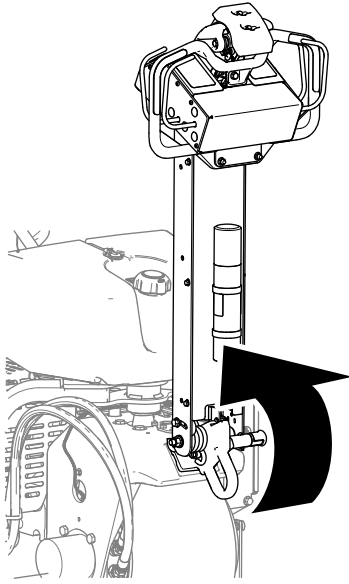

Figure 65
1. Fully raise the handlebar to engage the parking brake (Figure 65).